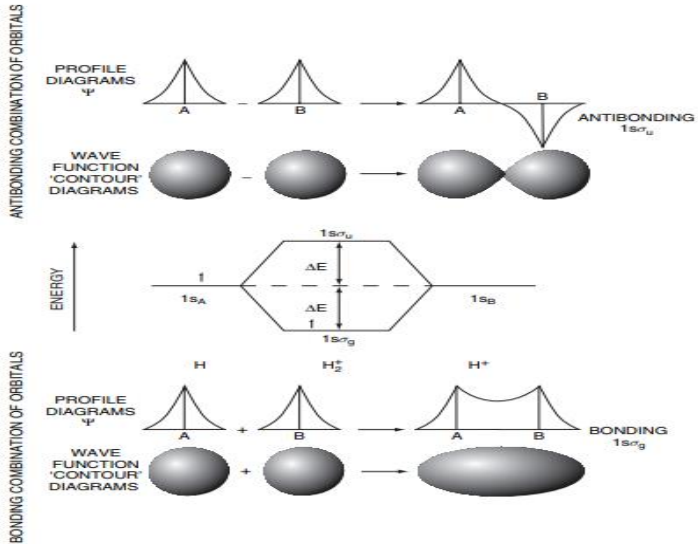

Figure 1.3 Molecular orbital description and energy level diagram for an H_2^+ ion
- For the h_2^+ ion, the two lowest-energy solutions are known as $1s\sigma_g$ and $1s\sigma_u$. Here $1s$ refers to the original atomic orbitals; the subscripts g and u refer to whether the MO is either symmetrical or non-symmetrical with respect to inversion about a line drawn between the nuclei (viz. an even or odd mathematical function). This is shown in figure 1.3